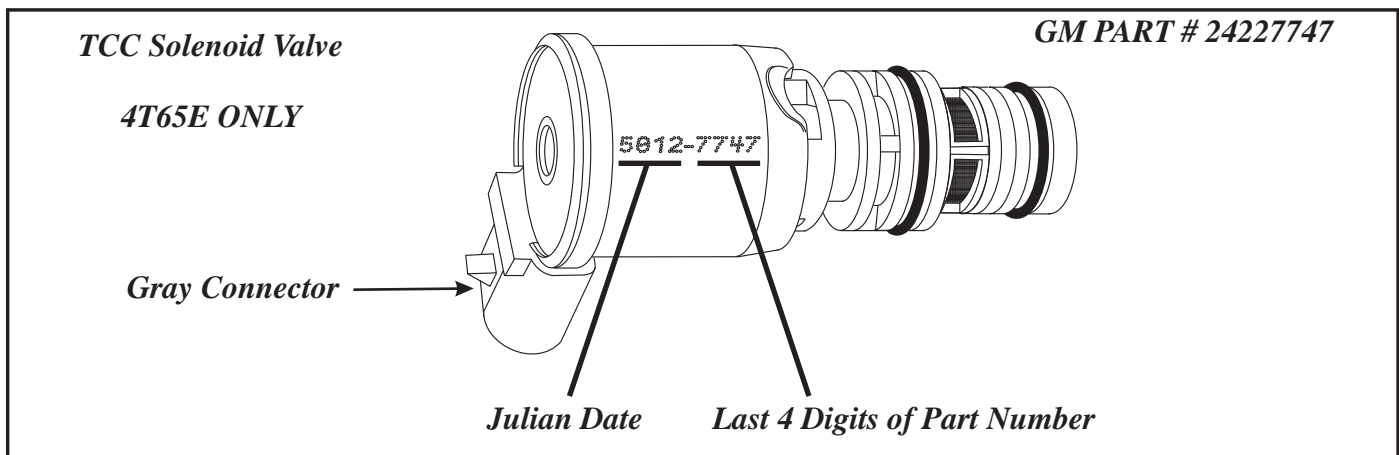

Figure 5
(See figures 5 and 6 for correct solenoid usage and identification information)
**SERVICE INFORMATION:** (See Figures 5 and 6) Identify the correct TCC/PWM solenoid for your application. It is very easy to use the wrong solenoid as both solenoids have a gray plastic connector with the same configuration and appear to be identical. They are not. Both solenoids will have 2 groups of 4 numbers etched on the can surrounding the solenoid winding. The first group indicates the Julian Build Date and the second group are the last 4 digits of the part number. Refer to GM TSB 02-07-30-039A dated Dec/2002. At the time of this printing, the correct OEM part numbers are as follows: